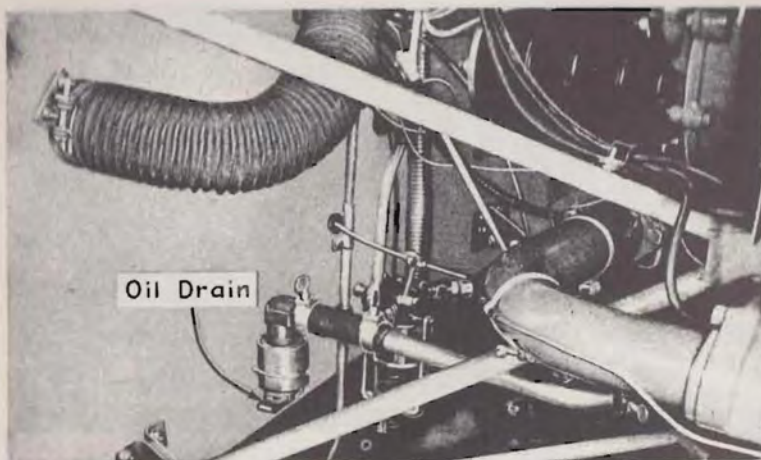

Figure 11—Oil Drain
24. The oil filler cap and dip stick are illustrated in figure 10. The oil drain valve, used on airplanes starting with serial number 1210, is illustrated in figure 11. Be sure to install safety wire on this drain valve.